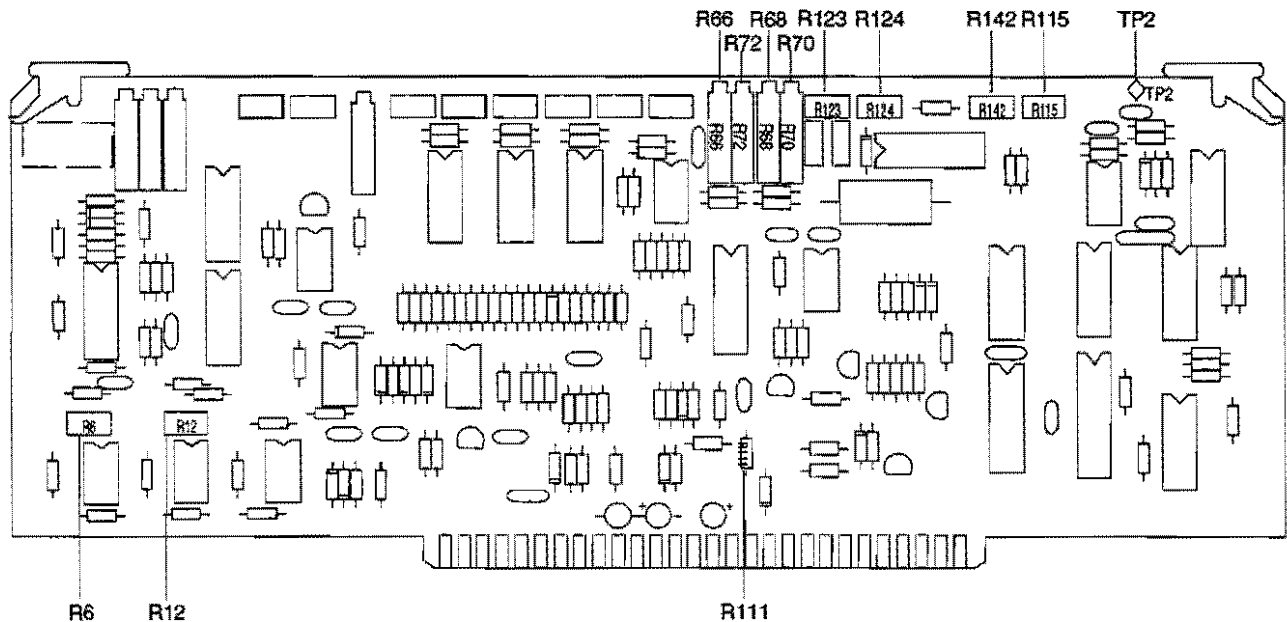

Figure 10-20. A4 PCB Component Locations
- Step 3.** Withdraw the A4 PCB and clip the center conductor lead on the function generator output to the bottom of A4R111 (Figure 10-20). Clip the shield lead to A4TP2.
- Step 3.** Adjust A4R123 (Figure 10-20) and A6R33 (Figure 10-17) for a squarewave with minimum overshoot.
- Step 3.** Adjust A4R124 (Figure 10-20) and A6R66 (Figure 10-17) for a square wave with minimum overshoot. (Recheck the adjustment at 5 GHz.)
- Step 2.** Adjust A4R12 (Figure 10-20) for minimum jitter (amplitude variations), as indicated on the oscilloscope.
- a. Adjust A4R66 (Figure 10-20) for +5 dBm \pm 0.5 dB.
- c. Adjust A4R72 (Figure 10-20) for -5 dBm \pm 0.5 dB.
- a. Adjust A4R66 (Figure 10-20) for +10 dBm \pm 0.5 dB.
- c. Adjust A4R72 (Figure 10-20) for 10 dBm \pm 0.5 dB.
- c. Adjust A4R66 (Figure 10-20) for +10 dBm \pm 0.5 dB.
c. Adjust A4R66 (Figure 10-20) for